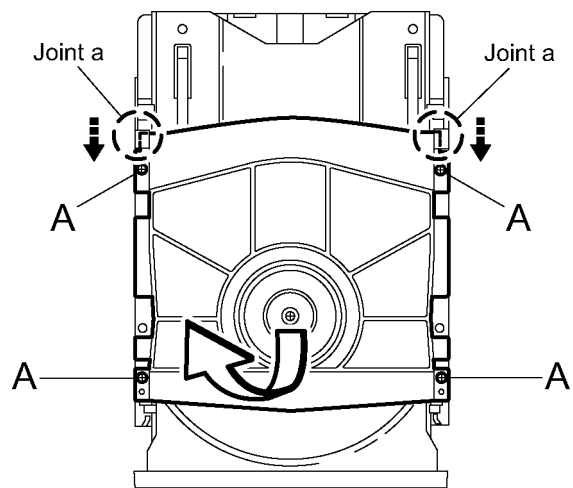

Fig.1
3.1.1 Removing the clamber assembly (See Fig.1)